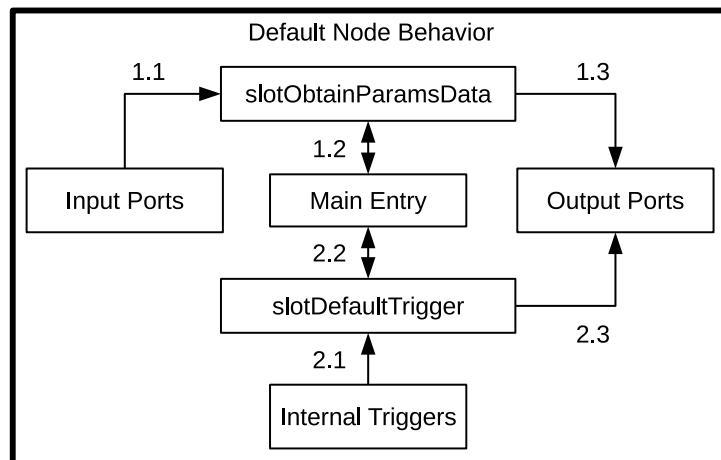

Figure 4.1: Default Node Behavior
As shown in Fig.4.1, the default node behavior contains two routes to access "Main Entry" (main Node Function in module) and then emit its "Params" and new "Data" according to the boolean return value of "Main Entry". The first route starts from "Input Ports" and node's virtual slot function "slotObtainParamsData" is called (inter-thread call). This route passes input "Params" and "Data" to the "Main Entry". The second route starts from "Internal Triggers" and node's virtual slot function "slotDefaultTrigger" is called (inter-thread call if the trigger is in "QObjectPoolThread" or is a QWidget, otherwise intra-thread call). This route does not pass input "Params" and "Data" to the "Main Entry".
1. Re-implement virtual slot function "slotObtainParamsData" to modify "1.2" and "1.3" in Fig.4.1.
2. Re-implement virtual slot function "slotDefaultTrigger" to modify "2.2" and "2.3" in Fig.4.1.
3. Add new slot functions to enrich "2.1" ends in Fig.4.1.